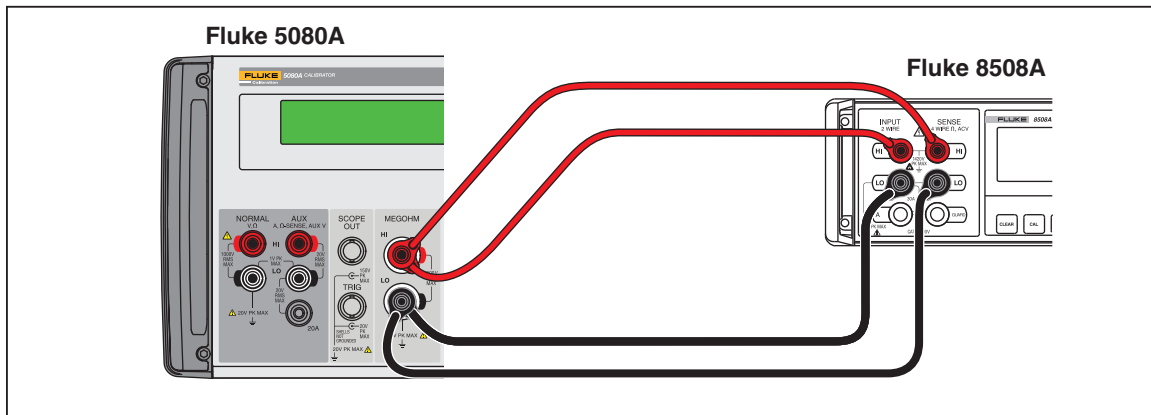

Figure 4. Low Resistance Verifications Connections
1. Connect the low resistance source output to a standard multimeter as shown in Figure 4. Use a 4-wire connection and setup the multimeter for a 4-wire ohms measurement.